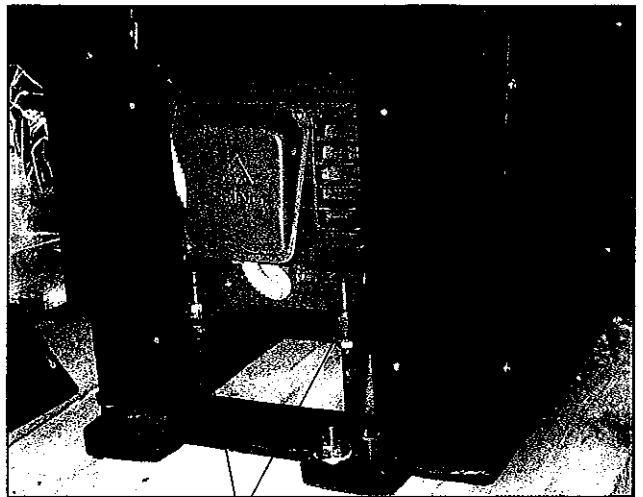

Fig.25
To check the driving belts tension, apply light finger pressure at a point midway between motor and headstock pulleys should produce about 13 mm (1/2") movement of each belt when under correct tension. To alter belts tension, remove the motor cover in back side of headstock plinth and adjust the two supporting screws (X) on the hinged motor platform. (Fig.25). Ensure that the motor axis is kept level and both pulleys are aligned correctly.